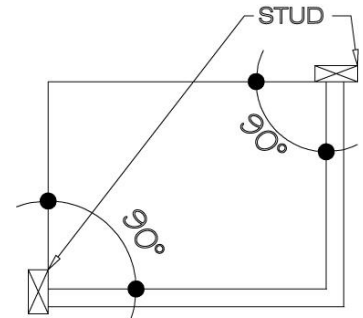

FIG.1
- Ensure that there is sufficient structural support behind the shower wall to hold the weight of the shower door. If there is not sufficient enough support, then reinforce the shower walls with wooden studs prior to shower door installation. [SEE FIG.1]